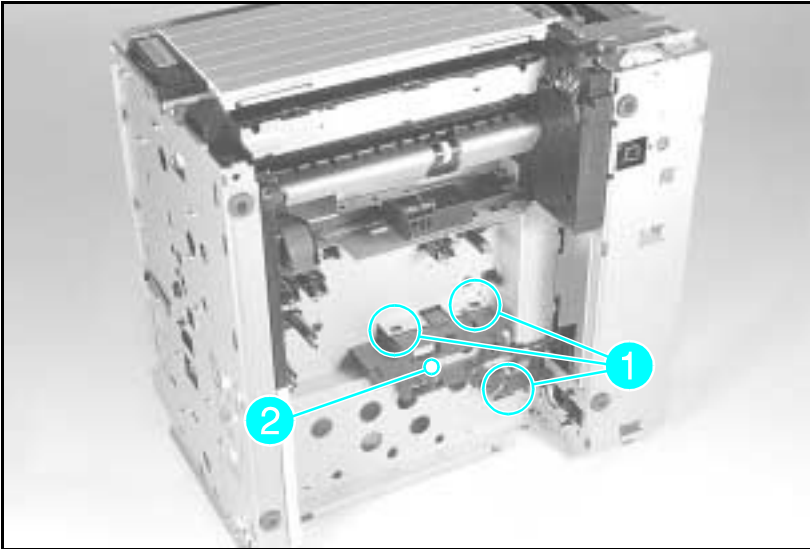

Figure 6-59 **Interconnect PCA latches and AC Connector Mounting Pins**
- 5** Release the bottom or rear-most latch (see Figure 6-59), callout 1) holding the arm of the Interconnect PCA housing to the sheet metal.